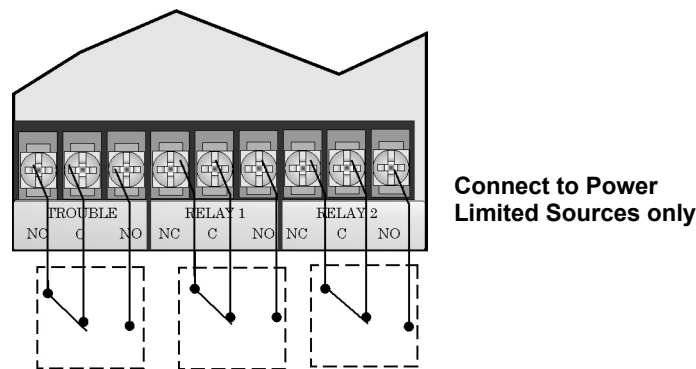

Figure 4.45 Location of Conventional Relay Circuits
1. Wire Relay 1 and/or Relay 2 as needed for your application. See Figure 4.45 for the location of the relay terminals.